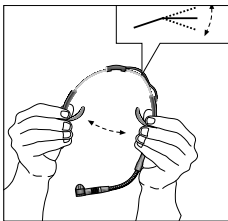

Fig. 8:
4. Should the microphone still fit loosely, bend the behind-the-neck headband slightly inward referring to fig. 8.